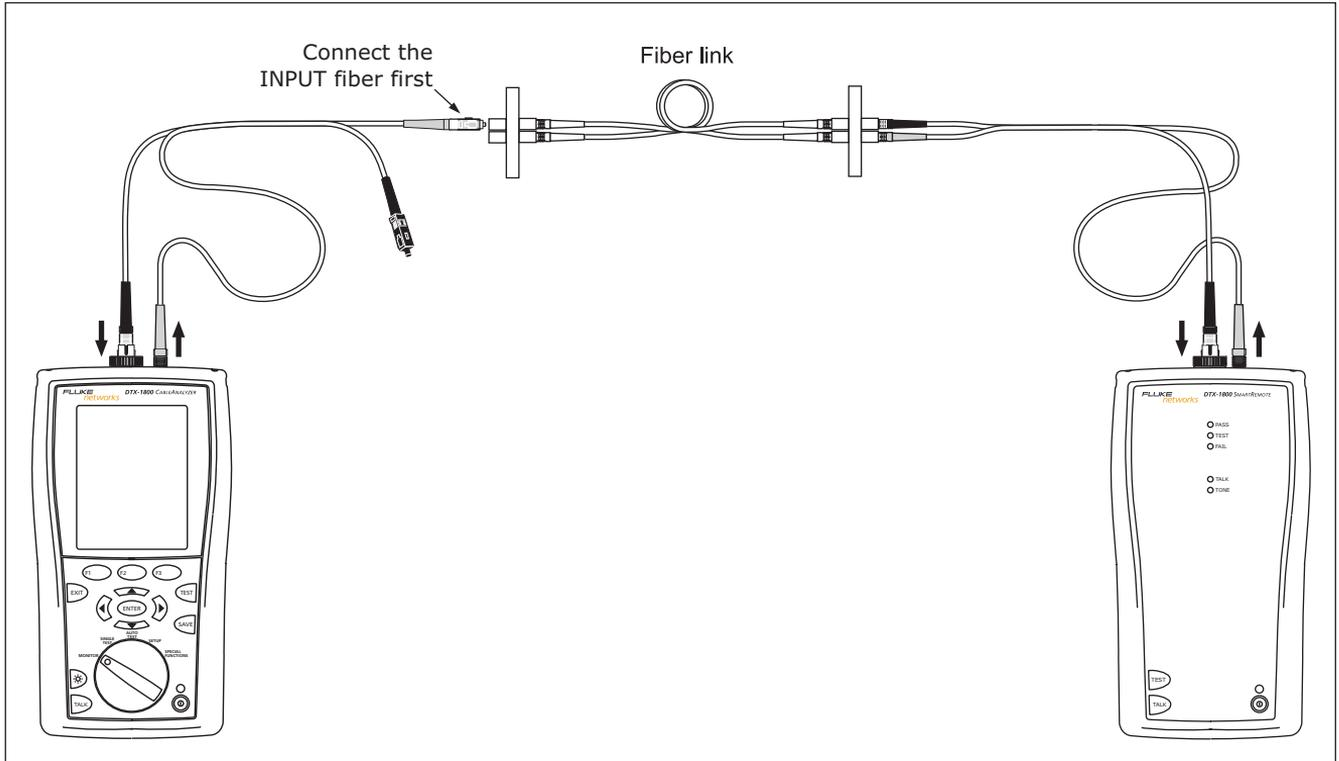

Figure 6-23. Using FindFiber in Smart Remote Mode
- 3 Clean all connectors; then make the connections shown in Figure 6-23.